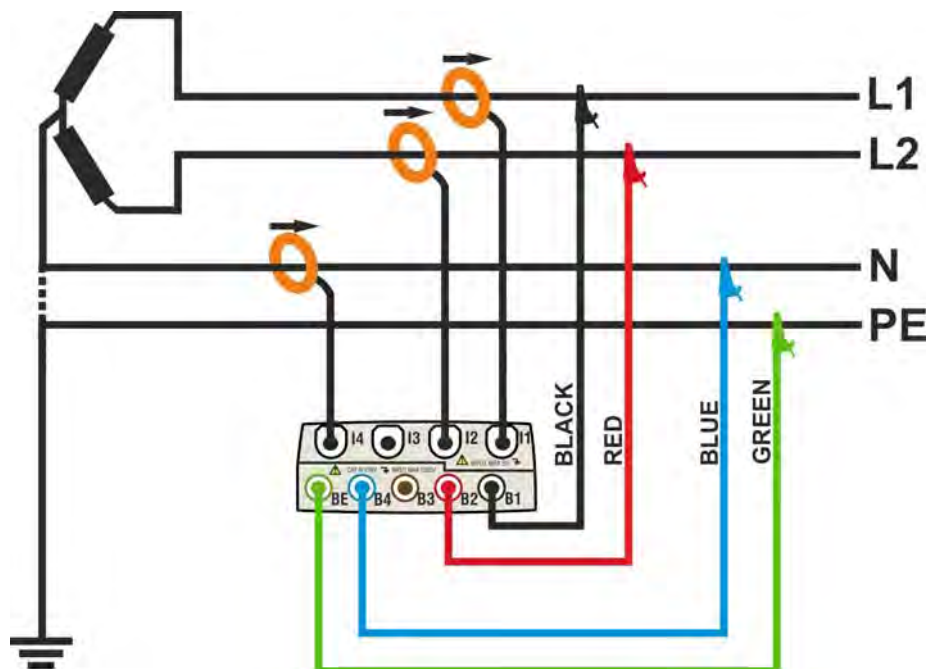

Fig. 142: Meter connection in a two phase 3-wire 3P2E system – ENG type
2. Connect voltage test leads on Phases L1, L2, N and PE cables considering the colours as shown in Fig. 142
3. Connect the transducer current clamps on Phase L1, L2, N cables as shown in Fig. 142 respecting the clamp's arrow direction indicating the current standard sequence from generator to load. **On Real Time Values' section screens (selecting a 3 wire system preliminarily) always verify the positive value of Active Power and the power factor relative to load which should be normally inductive before starting a recording.** Reverse the clamp by 180 degrees on cables in case of negative readings.